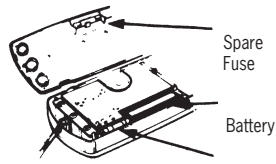

Fig.11
- The battery and fuse are installed inside the case (Fig.11).